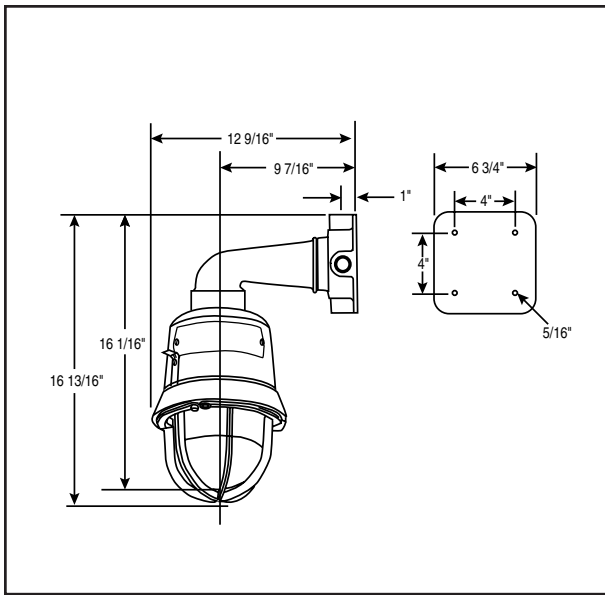

Figure 4. Detail of Wall Bracket Mounting
- c. **Bracket Mount Models** (Figure 4): Install the catalog number 116EX-C ceiling/wall mounting module using appropriate hardware (not supplied) for the mounting surface. Install the catalog number 116EX-B wall mounting elbow to the wall box. Run the unit's wiring through the elbow to the wall box. Proceed to step 2.